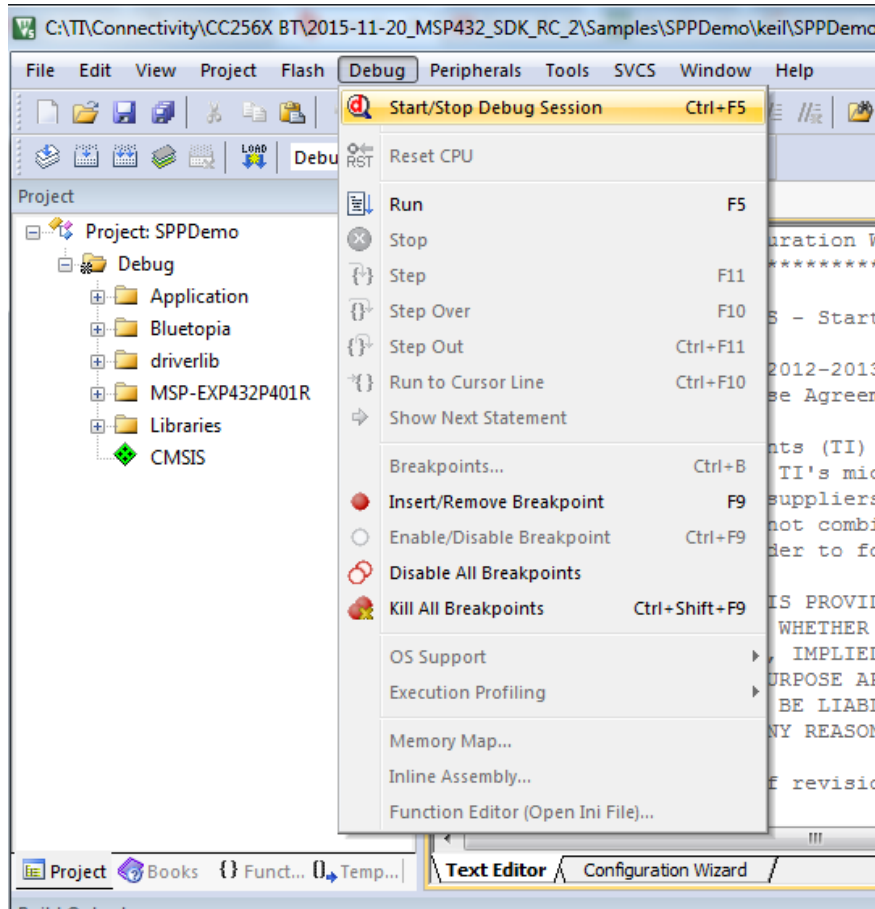

Figure 16. Start/Stop Debug Session
- i. Select *Start/Stop Debug Session* to start loading the profile on the MSP432 device (see Figure 16).